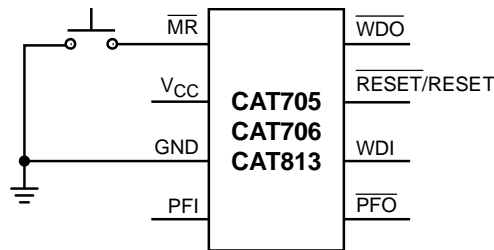
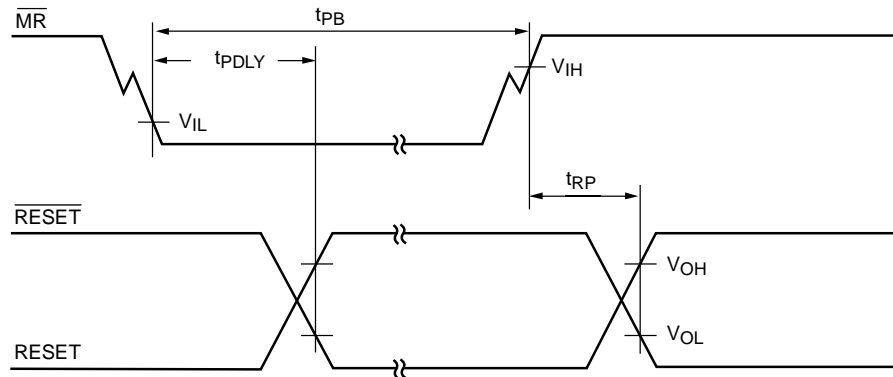

Figure 1. Pushbutton RESET
Figure 2. Timing Diagram – Pushbutton RESET
The CAT705, CAT706 & CAT813 each have a Manual Reset (MR) input to allow for alternative control of the reset outputs. The MR input is designed for direct connection to a pushbutton (see Figure 1). The MR input is internally pulled up by 52k Ω resistor and must be pulled low to cause the reset output to go active. Internally, this input is debounced and timed such that RESET (or RESET) signals of at least 140ms minimum will be generated. The min 140ms t_{RP} delay commences as the Manual Reset input is released from the low level. (see Figure 2)